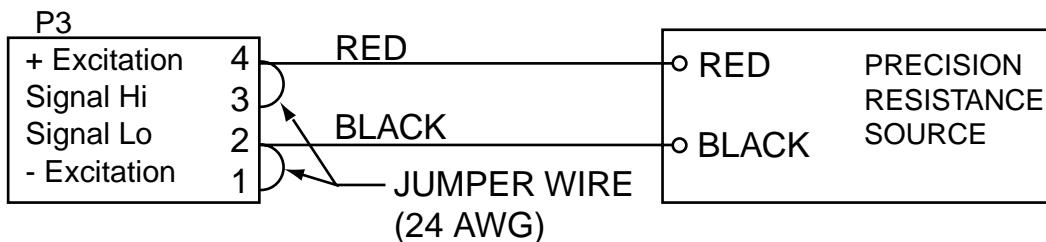

Figure 4-1. 2-Wire Configuration
2. Connect the precision resistance source to the P3 connector observing proper wiring configuration. For 3–wire connections, use pins 1, 2, 3, and 4. Refer to **Figures 4-1** through **4-3**.